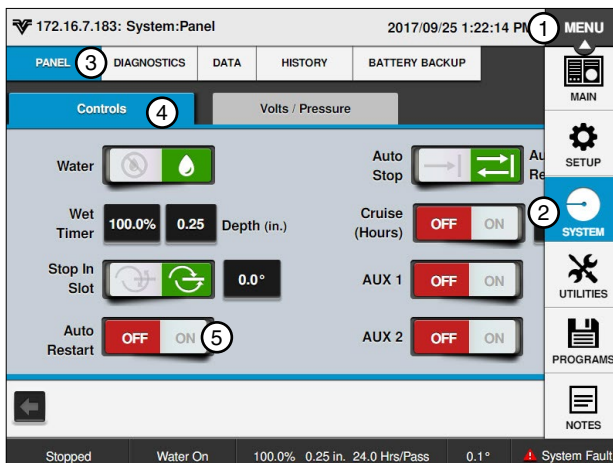

Figure 20-1 1. Menu 2. System 3. Panel 4. Controls 5. Auto Restart On
1. Push **Menu, System, Panel**, and **Controls**. Refer to Figure 20-1.